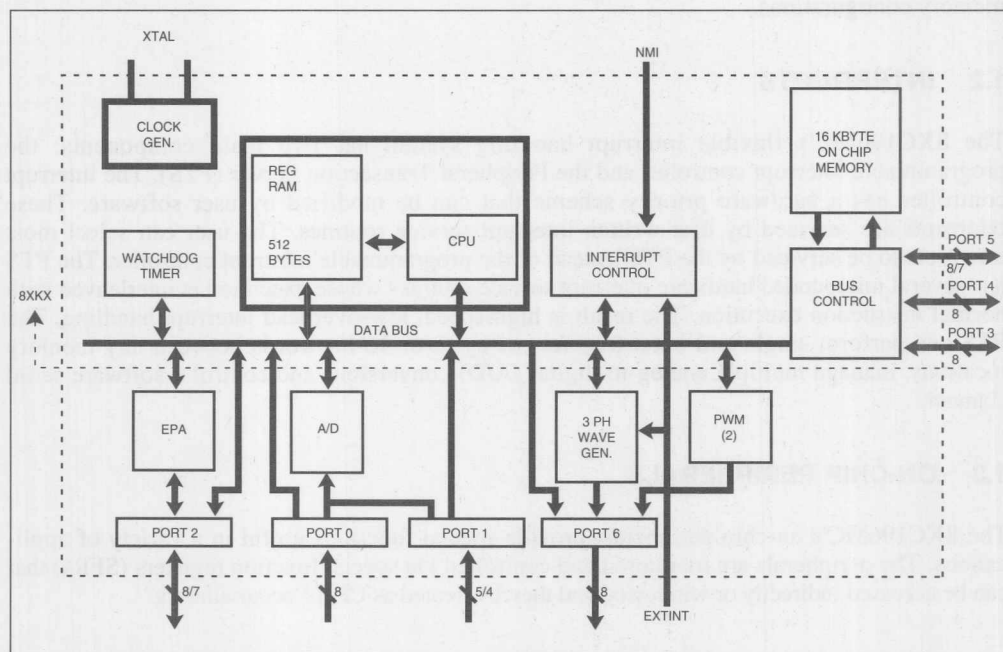

Figure 1.1. 8XC196MC Block Diagram
The 8XC196MC is a 16-bit microcontroller designed especially for the high-speed event control required for electric motor and inverter applications. The 8XC196MC has a 64 Kbyte address space. Figure 1.1 is a block diagram of the 8XC196MC. Its main components include a CPU, several types of memory, seven I/O ports and several on-chip peripheral devices. The peripherals include an A/D converter, an event processor array (EPA), two timers (Timer1 and Timer2), a 3-phase waveform generator (WG) and a pulse width modulation unit (PWM).
The CPU is 16 bits wide and is connected to the interrupt controller and the memory controller via the 16-bit CPU bus. An extension of the 16-bit CPU bus connects the CPU to the peripheral devices (Figure 1-1). In addition, an 8-bit CPU bus transfers instruction bytes from the memory controller to the instruction register in the RALU. The interrupt controller is described in Section 11.